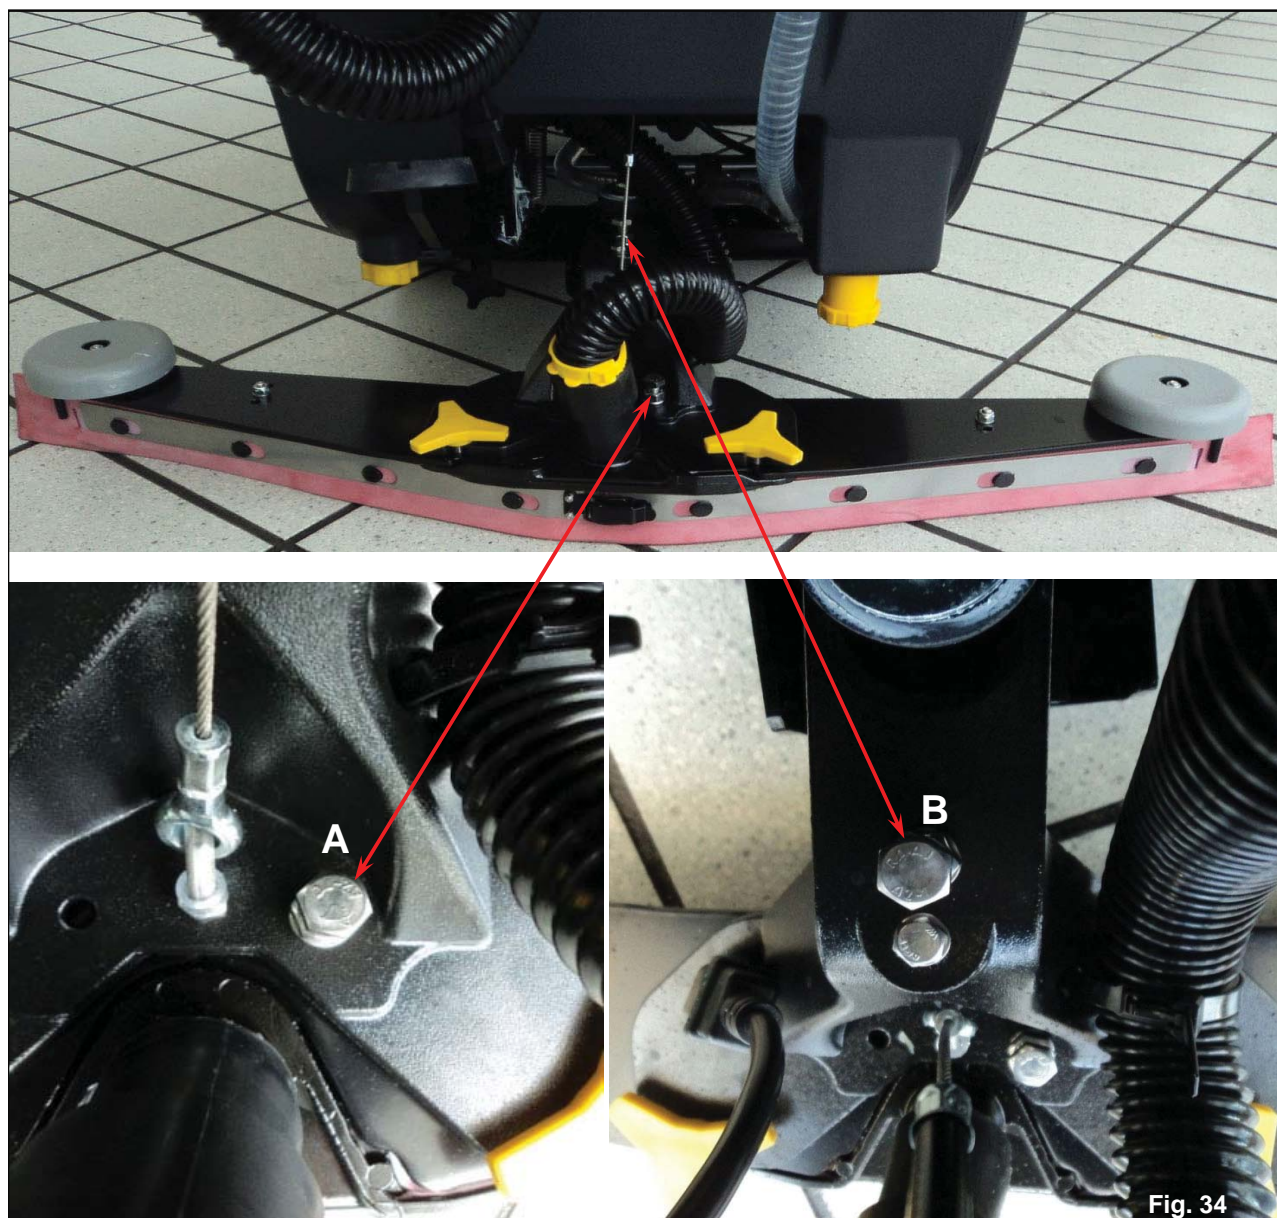

**Fig. 33**
- 5 **The squeegee blades have been designed symmetrically, so that they can be rotated on all four edges before being replaced, see Fig. 33.**